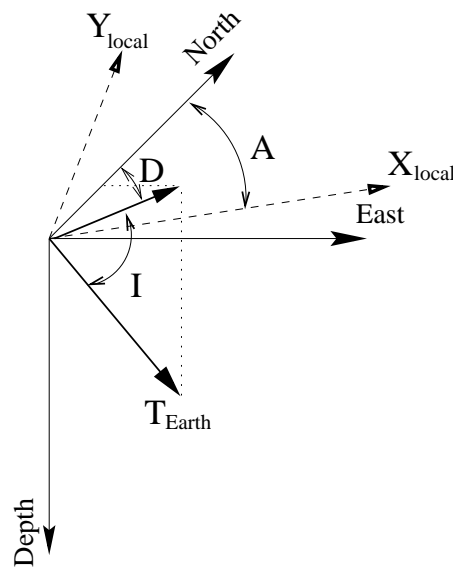

Figure 83: Coordinate system
To estimate location and amplitude of the magnetic sources parameters of the main Earth's magnetic field (see also figure 83) should be known. International geomagnetic reference field [5] normally provides these values. It allows you to find the main magnetic field parameters for any point on the Earth between years 1900 and 2005. This model will be extended in future as new observations (which are conducted all over the planet) become available.
To find magnetic dipoles, information about the Earth's magnetic field and orientation of the local coordinate system has to be provided. These values have to be filled in using the "Inversion parameters" dialog box. To understand what they mean refer to figure 83.
- *Main field inclination.* Inclination of Earth's magnetic field in the geographical system - angle **I** of figure 83.
- *Main field declination.* Declination of Earth's magnetic field in the geographical system - angle **D** of figure 83. Positive to the East.
- *Azimuth of X axis.* Azimuth of you local X axis - angle **A** of figure 83. In case your local X coincide with geographical east $A = 90^\circ$ Positive to the East.
- *Total magnetic field.* Magnitude of \vec{T} on figure 83.